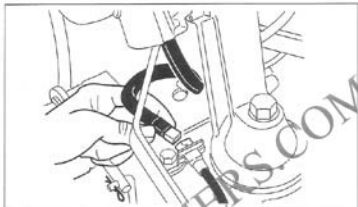

Figure 2-6: Forward interlock wire connection and handlebar adjustment bolt.
1. Unplug the forward interlock wire (see Figure 2-6) at the connection on the Power Unit transmission.
2. Using a 3/4" wrench, loosen the handlebar bolt on the Power Unit as shown in Figure 2-6. Also see the PTO Horse Drive Operator Manual if additional information is needed on moving the handlebars. (Owners of older model Power Units use the T-bar to move the handlebars.)
9. Connect the Forward Interlock Wires as shown in Figure 2-6 on Page 13.